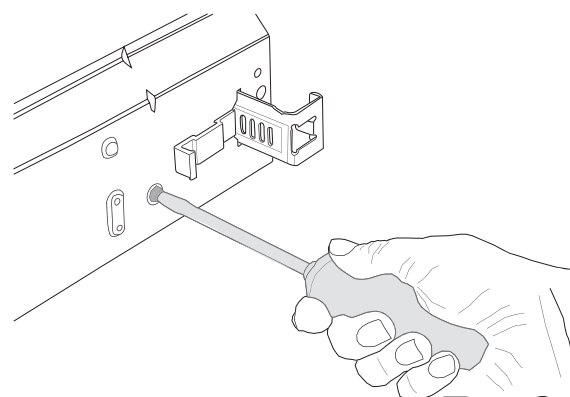

Figure 9.
4. Incline the machine forwards slightly and adjust the rear foot roughly by screwing the adjuster screw on the front clockwise to raise or anticlockwise to lower (see Figure 9). Use a broad-bladed screwdriver or a screwdriver with a hexagonal grip.